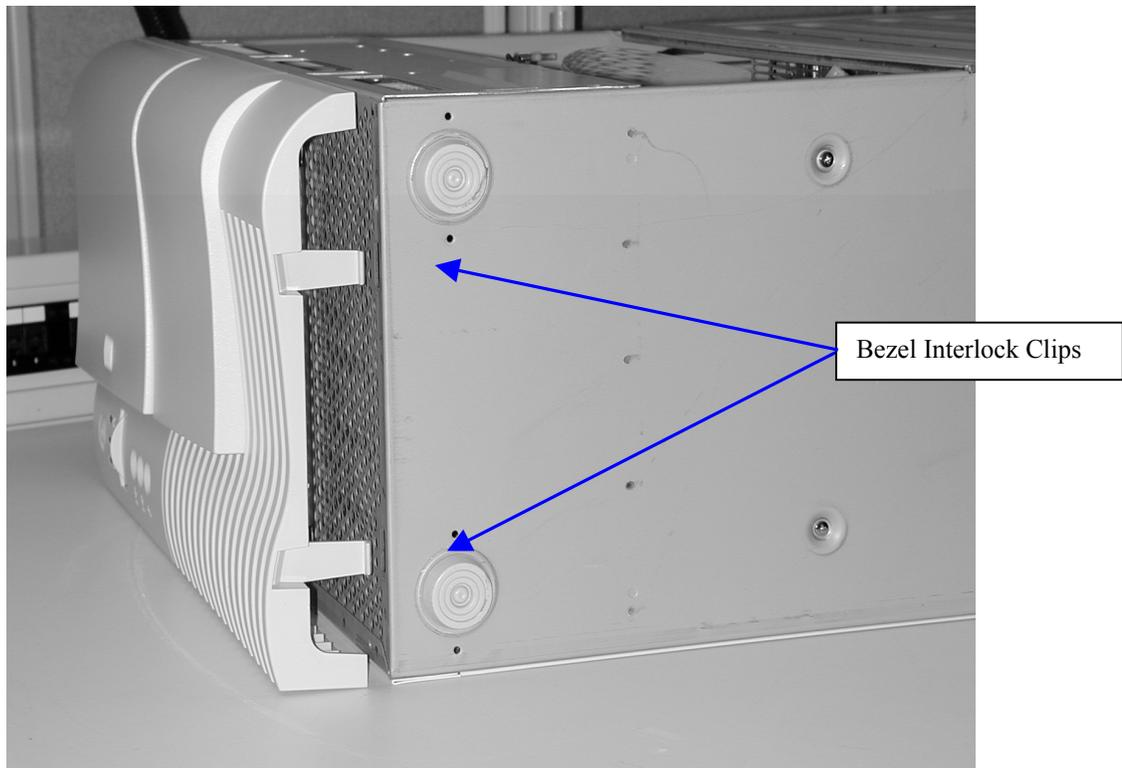

Figure 2. Bezel Interlock Clips
3. Pull the system out from the work area and grasp the bottom inside of the bezel. Locate the two- (2) bezel clips (as show in Figure 2) near the bottom of the system and press in to disengage the bezel from the chassis sheet metal. Once disengaged, gently pull the front bezel away from the system. There are four- (4) interlock clips that disengage from the slots within the system chassis.